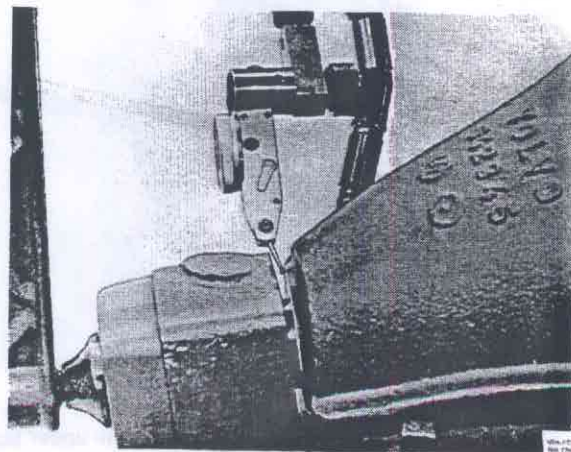

Fig. 63-12. Dial indicator pointer setting
5. Place a dial indicator according to Fig. 63-11 and zero-set it. Note the measuring pointer position, see Fig. 63-12.